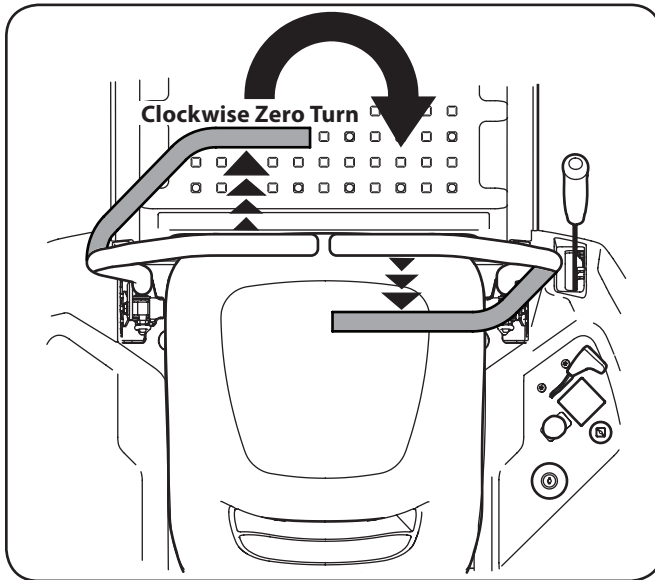

Figure 5-10
2. To turn clockwise, move the left control lever forward while simultaneously moving the right control lever rearward. See Figure 5-10.